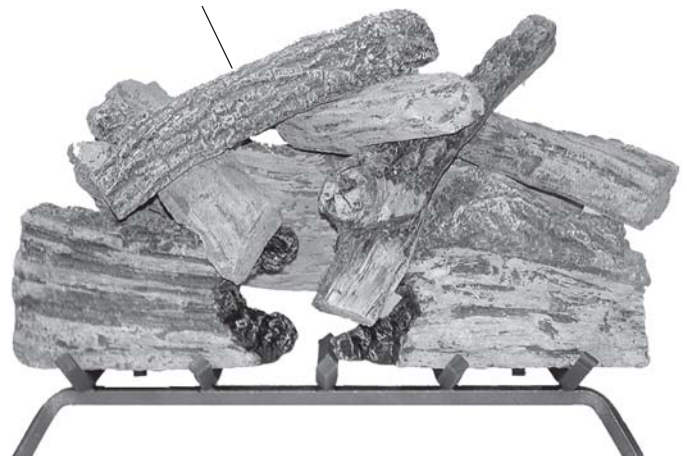

Figure 110 - Installing Top Left Log (#8)
10. Place front end of Top Left Log #8 on Log #7. Let back end of Log #8 rest on Log #6. See *Figure 110*.